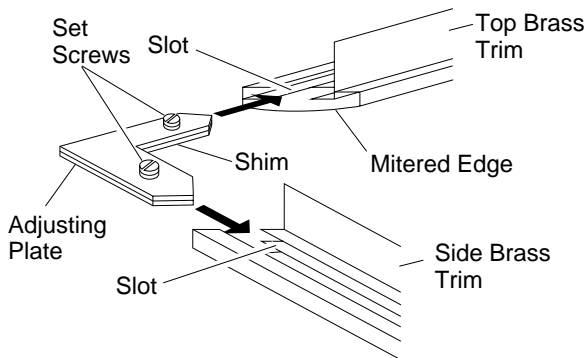

Figure 1 - Assembling Brass Trim
4. Slide one end of adjusting plate/shim in slot on mitered edge of top brass trim (see Figure 1).
5. Slide other end of adjusting plate/shim in slot on mitered edge of side brass trim (see Figure 1).